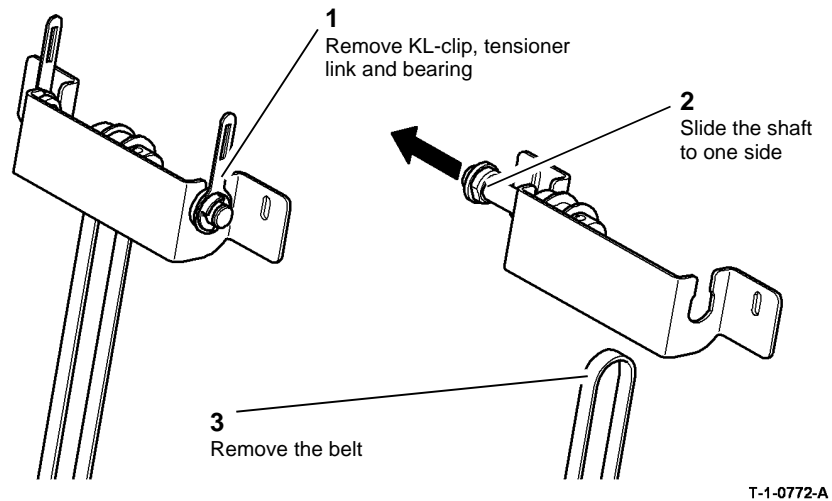

Figure 4 Backstop belt removal
13. Figure 4, remove the BM backstop belt.